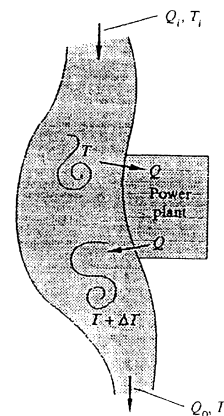

Fig. P3.127
**3.127** A power plant on a river, as in Fig. P3.127, must eliminate 55 MW of waste heat to the river. The river conditions upstream are  $Q_1 = 2.5$  m3/s and  $T_1 = 18^\circ\text{C}$ . The river is 45 m wide and 2.7 m deep. If heat losses to the atmosphere and ground are negligible, estimate the downstream river conditions ( $Q_0, T_0$ ).